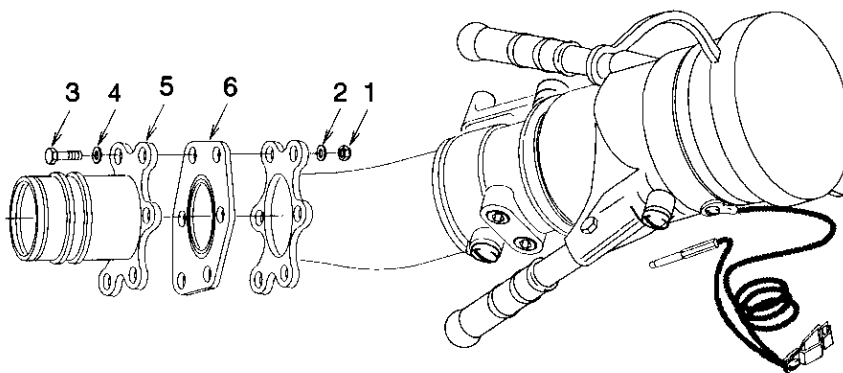

Figure 4-2. Camlock Disconnect Assembly Removal
- (4) Slip retainer (6) onto housing (8).
- (5) Place sixteen balls (7) in holes using retainer (6) to help hold balls in place. Seat retainer into place over balls.
- (6) Secure retainer (6) with two screws (5).
- (7) Secure screws (5) with twisted lock wire (4). Be sure that ends of lock wire are turned under and that no sharp edges are exposed.
- (8) Slip retaining ring (3) into groove nearest retainer (6) in housing (8).
- (9) If old gasket (2) was damaged, replace with new gasket.
- (10) Apply antisieze tape to camlock coupling (1) threads and install into housing (8).
- e. Installation See figure 4-2.